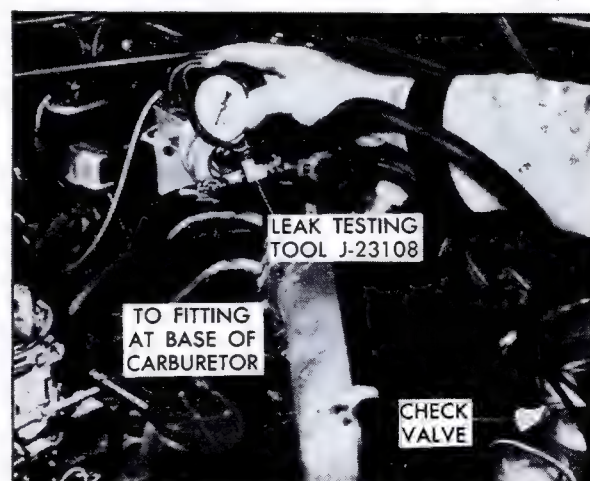

Fig. 5-30 Vacuum Leakage Test
1. Attach one end of a spare windshield washer pump inlet hose to the port nearest the shut-off valve of tool J-23108, Fig. 5-30.
2. Disconnect power brake hose from vacuum fitting at base of carburetor and attach the other end of the windshield washer pump inlet hose to this fitting. A small amount of silicone lubricant will facilitate installation, Fig. 5-30.
3. Connect the power brake hose to other port of the tester and secure with hose clamp, Fig. 5-30.